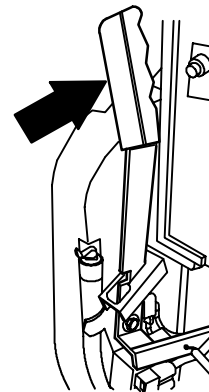

FIG. 40
7. Lower squeegee to turn on vacuum system (Figure 40).